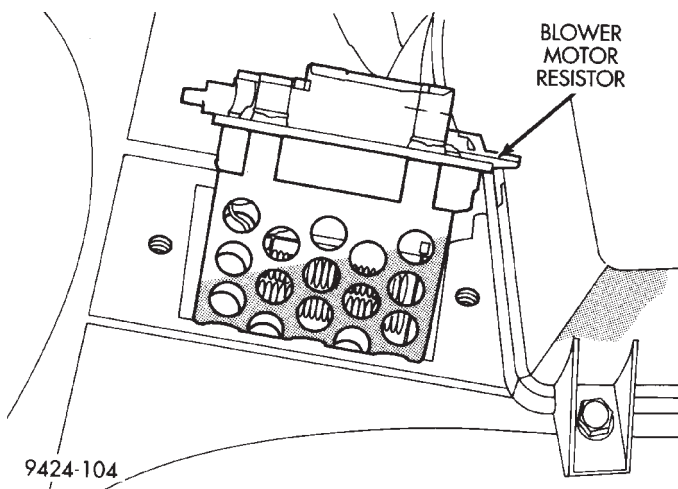

**Fig. 66 Blower Motor Resistor**
(11) Remove blower motor resistor (Fig. 66).